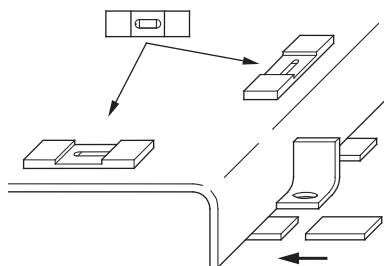

Fig. 7: Levelling and aligning the baseplate
- Apply the baseplate and level this in both directions with additional shims (see fig. 7).
- Align the complete unit when installing on the base using a spirit level (at the shaft/pressure port) (see fig. 7). The baseplate should be horizontal with a tolerance of 0.5 mm per meter.